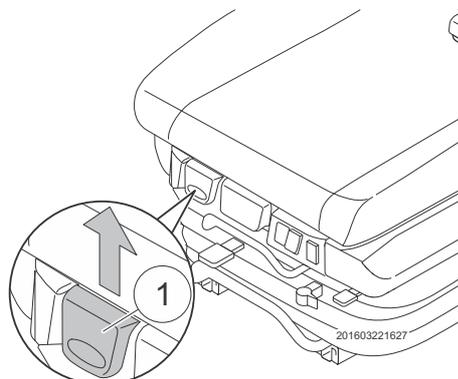

Fig. 59 Adjusting the seat inclination
- 1 Push lever (Fig. 59/1) upwards.